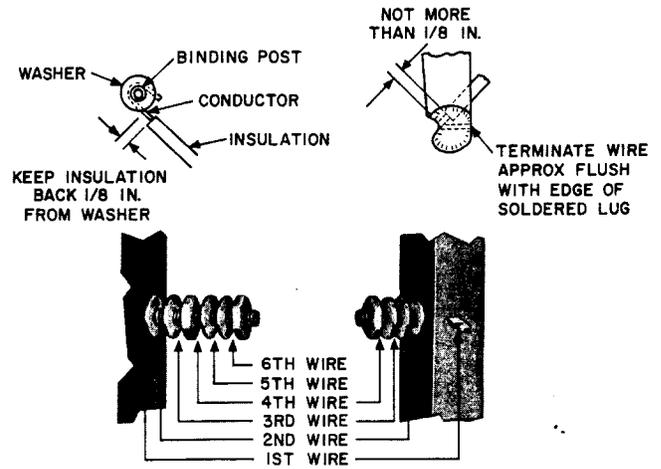

Fig. 11—Sequence and Method of Termination
4.06 When terminating inside wire or cable conductors on 30- or 31-type connecting blocks, only enough slack should be left to enable the conductor to be reterminated in case of breakage at the time of termination. (See Fig. 11.)